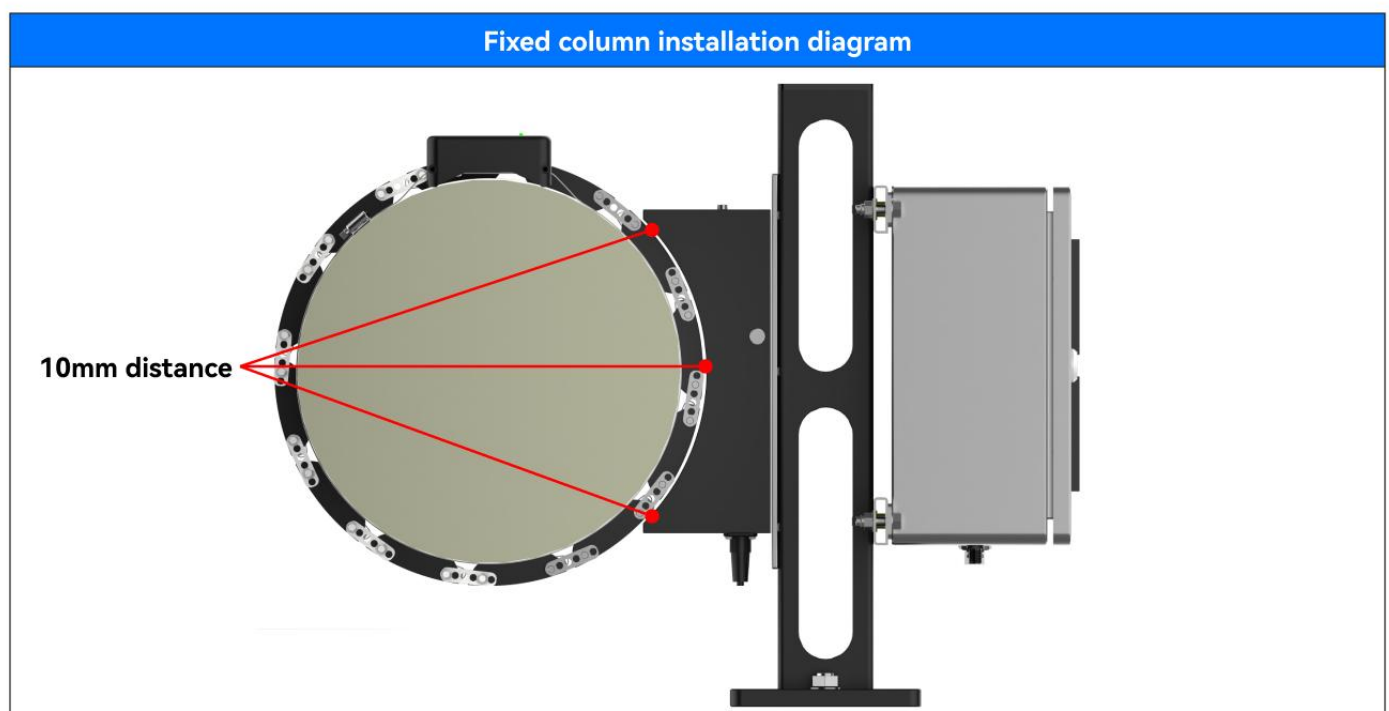

Figure 3.39
4. Loosen the stator mounting nuts and bolts if necessary, and adjust the stator mounting vertically on the mounting column slot until the air gap between the stator and rotor assembly is consistent with 10mm along its curved surface, as shown in Figure 3.39.